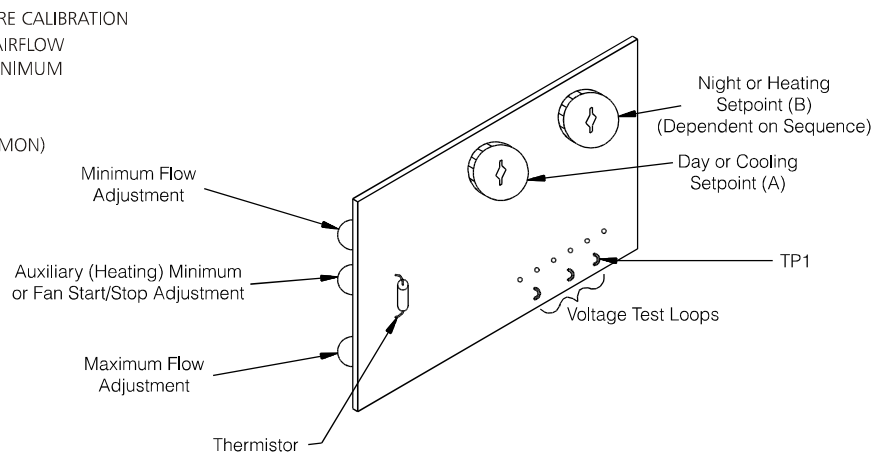

Figure 1b, 2.5" x 3.5" Thermostat
1.1.2 2.5 x 3.5" Thermostat (Figure 1b)